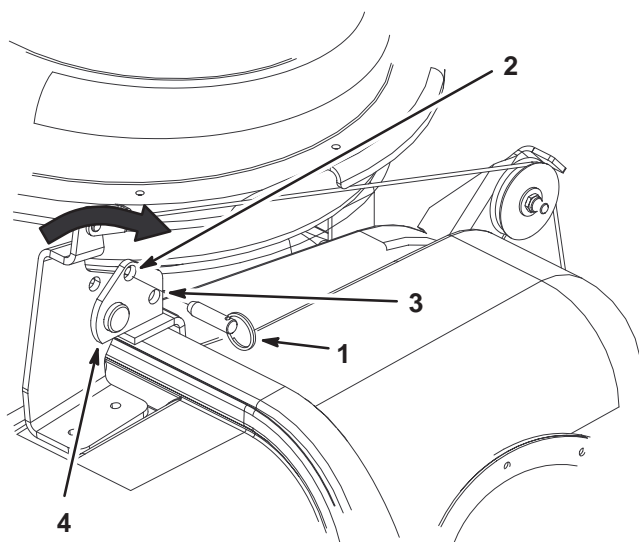

Figure 30
4. With the bagger open, pull out the holding pin and insert into the hole in the hinge (Fig. 30).